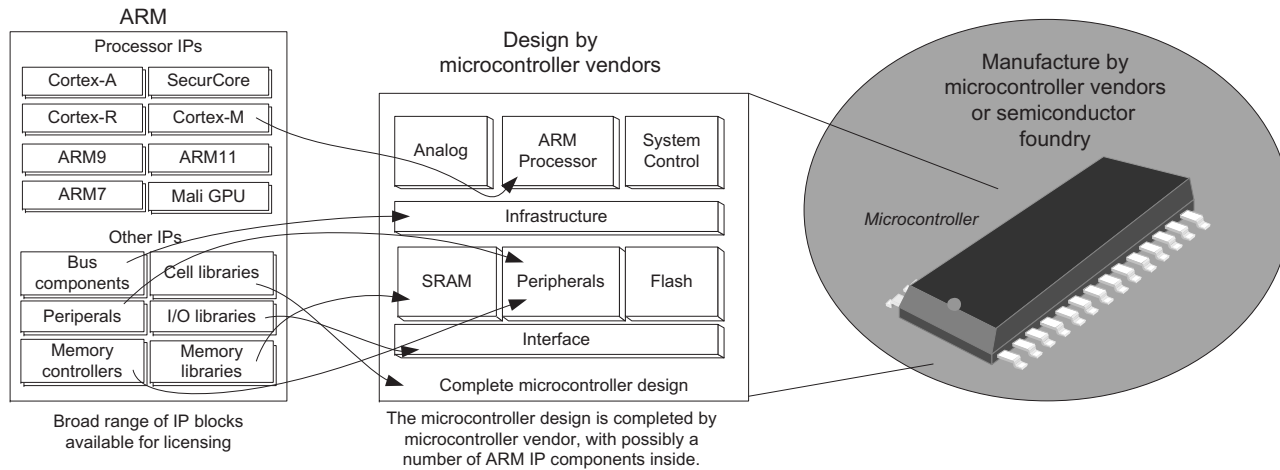

FIGURE 1.3
ARM also provides other Intellectual Property (IP) products, and some can be used by these companies in their microcontroller products (see Figure 1.3). For example: